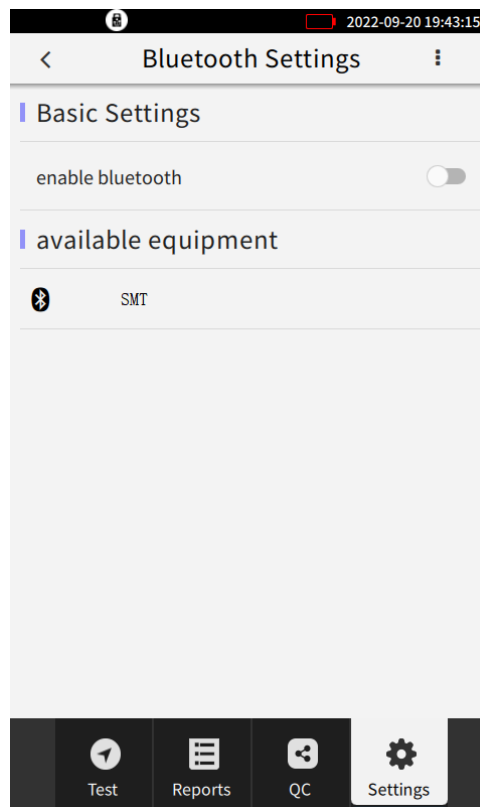

Figure 3-17
**【Bluetooth Settings】** Bluetooth settings , switches and Bluetooth connection. As shown in the figure: 3-17